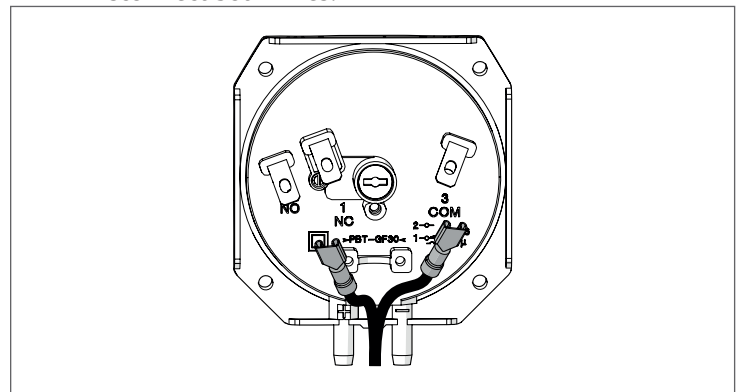
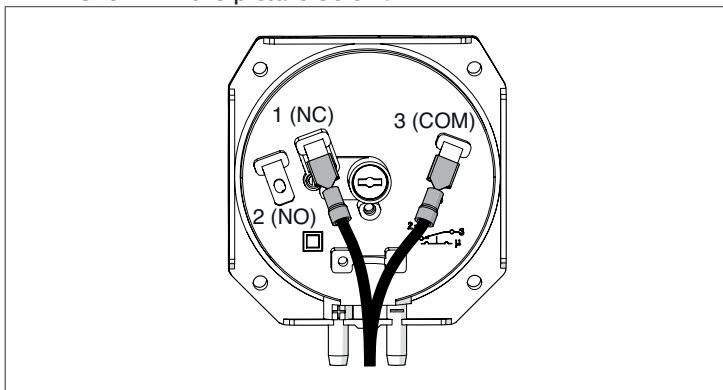

Fig. 67 Disconnect wires
Fig. 70 Wired pressure switch
- Test the pressure switch on the other side of the boiler (module 4 or 8); repeat the process from Fig. 67 through Fig. 70.
- Follow the steps from Fig. 67 through Fig. 70.